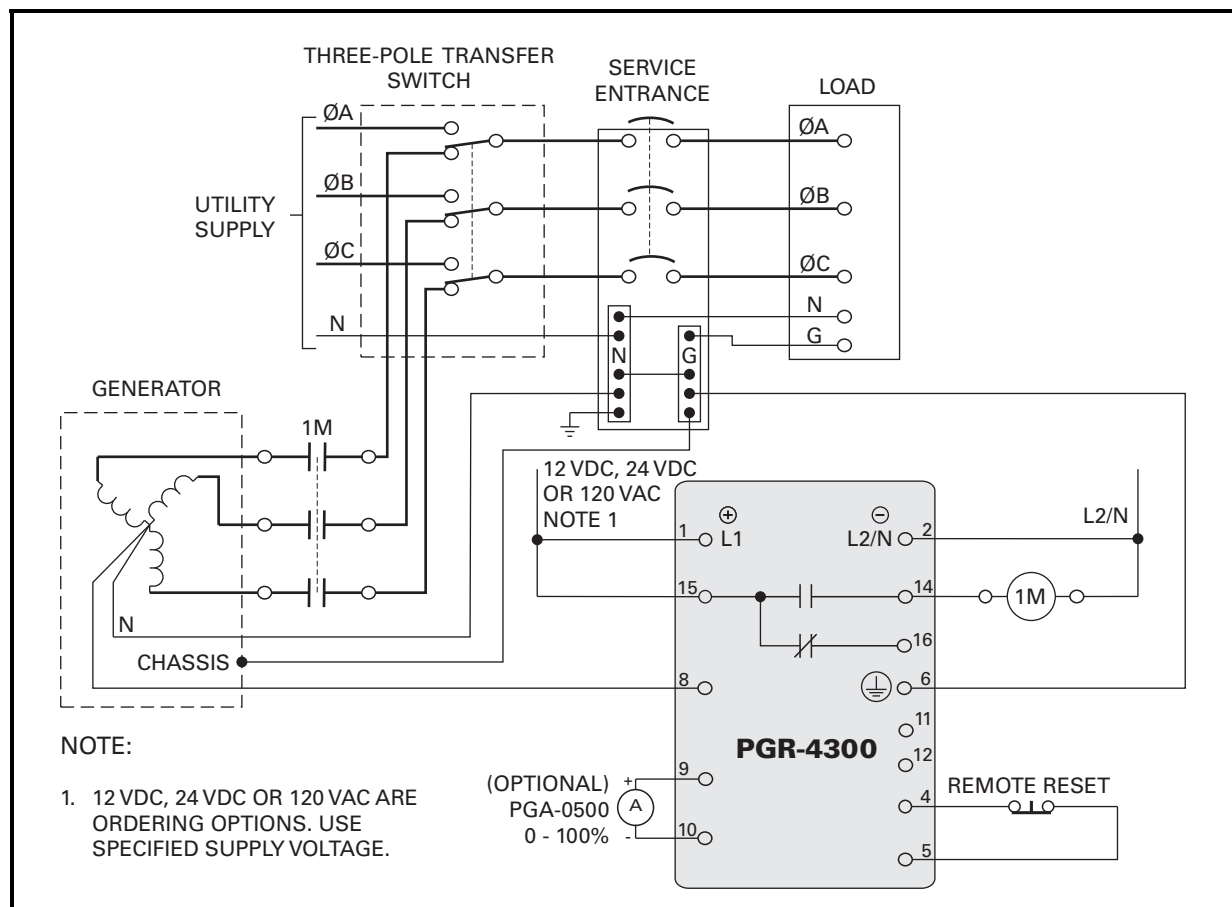

FIGURE 2. Three-Pole Transfer Switch Typical Connection Diagram.
In a three-pole transfer-switch application, the generator neutral and system neutral are connected to ground at the service entrance. The connection between the generator neutral and service-entrance ground is assumed to have a resistance of 2 mΩ and voltage across this conductor is measured to calculate ground-fault current. See Fig. 2. The selection of a neutral-bonding conductor can be made using NEC 250.102(D) and 250.122, and calculating the conductor length needed for a 2 mΩ resistance.
A non-isolated, 0- to 1-mA output (terminals 9 and 10) indicates ground-fault current. Full-scale corresponds to the ground-fault level setting. For example, if the ground-fault level setting is 300 A, then 1 mA output will be indicated when the measured current is 300 A. The output is linear between zero and full scale. See Figs. 2, 3 and 4 for PGA-0500 meter details.
Terminals 4 and 5 are used for remote reset. A normally closed contact switch is required to configure the PGR-4300 for latching operation. See Section 2.2.3 and Figs. 2 and 3.
This ground-fault monitoring system consists of a PGR-4300 Generator Ground-Fault Relay connected as shown in Figs. 2 and 3.
For a three-pole system, connect terminal 8 to the generator neutral, and terminal 6 to the local ground. See Fig. 2.